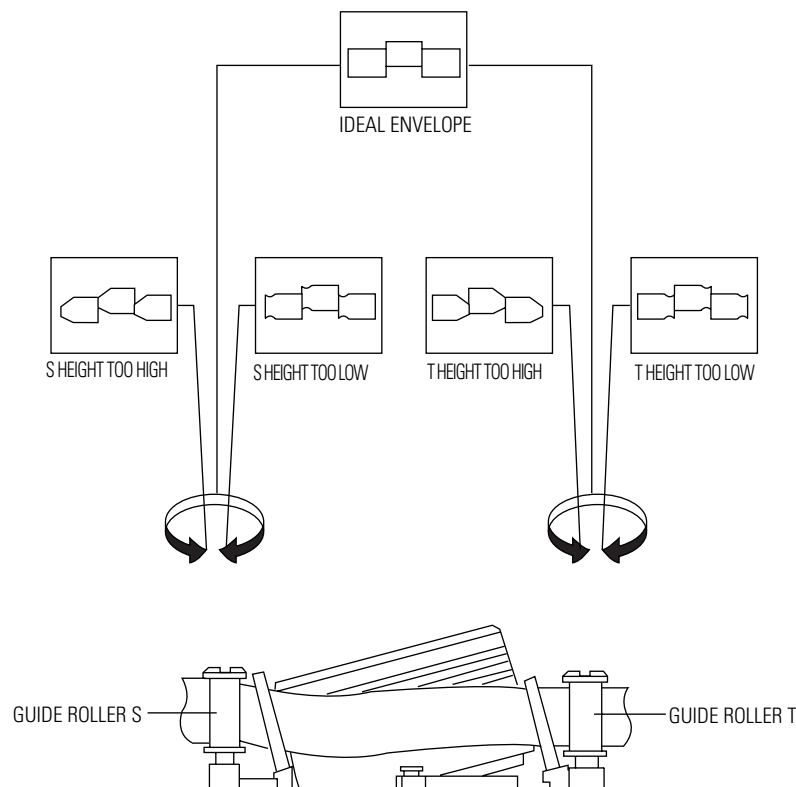

Fig. 2-8 Guide Roller S, T Height Adjustment
- 8) Turn the guide roller heads with a flat head () driver to obtain a flat video RF envelope as shown in Fig. 2-8.